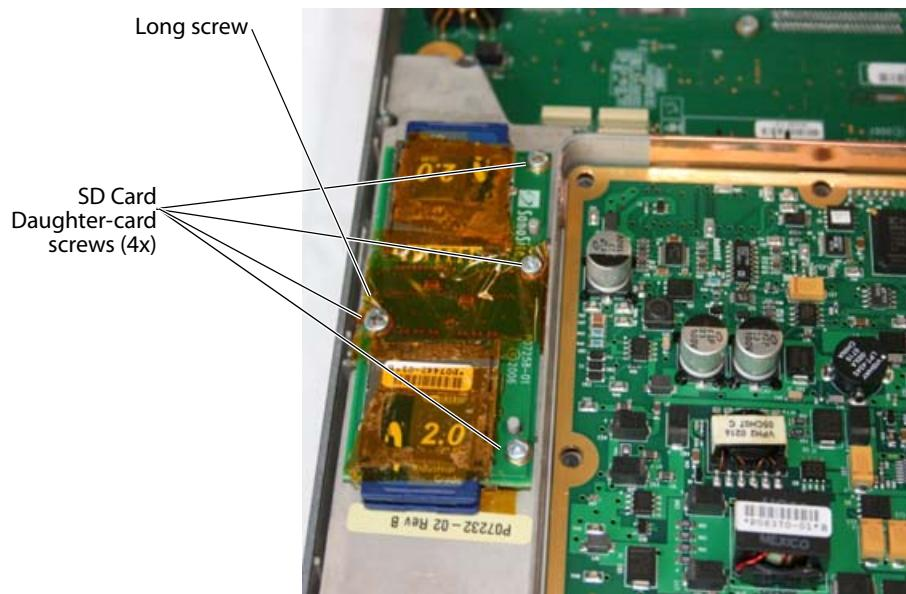

Figure 4.12 SD Card Daughter-card screws
- 2 Remove the 4 screws that hold down the SD Card Daughter-card per Figure 4.12. Note the location of the one longer screw for reassembly.